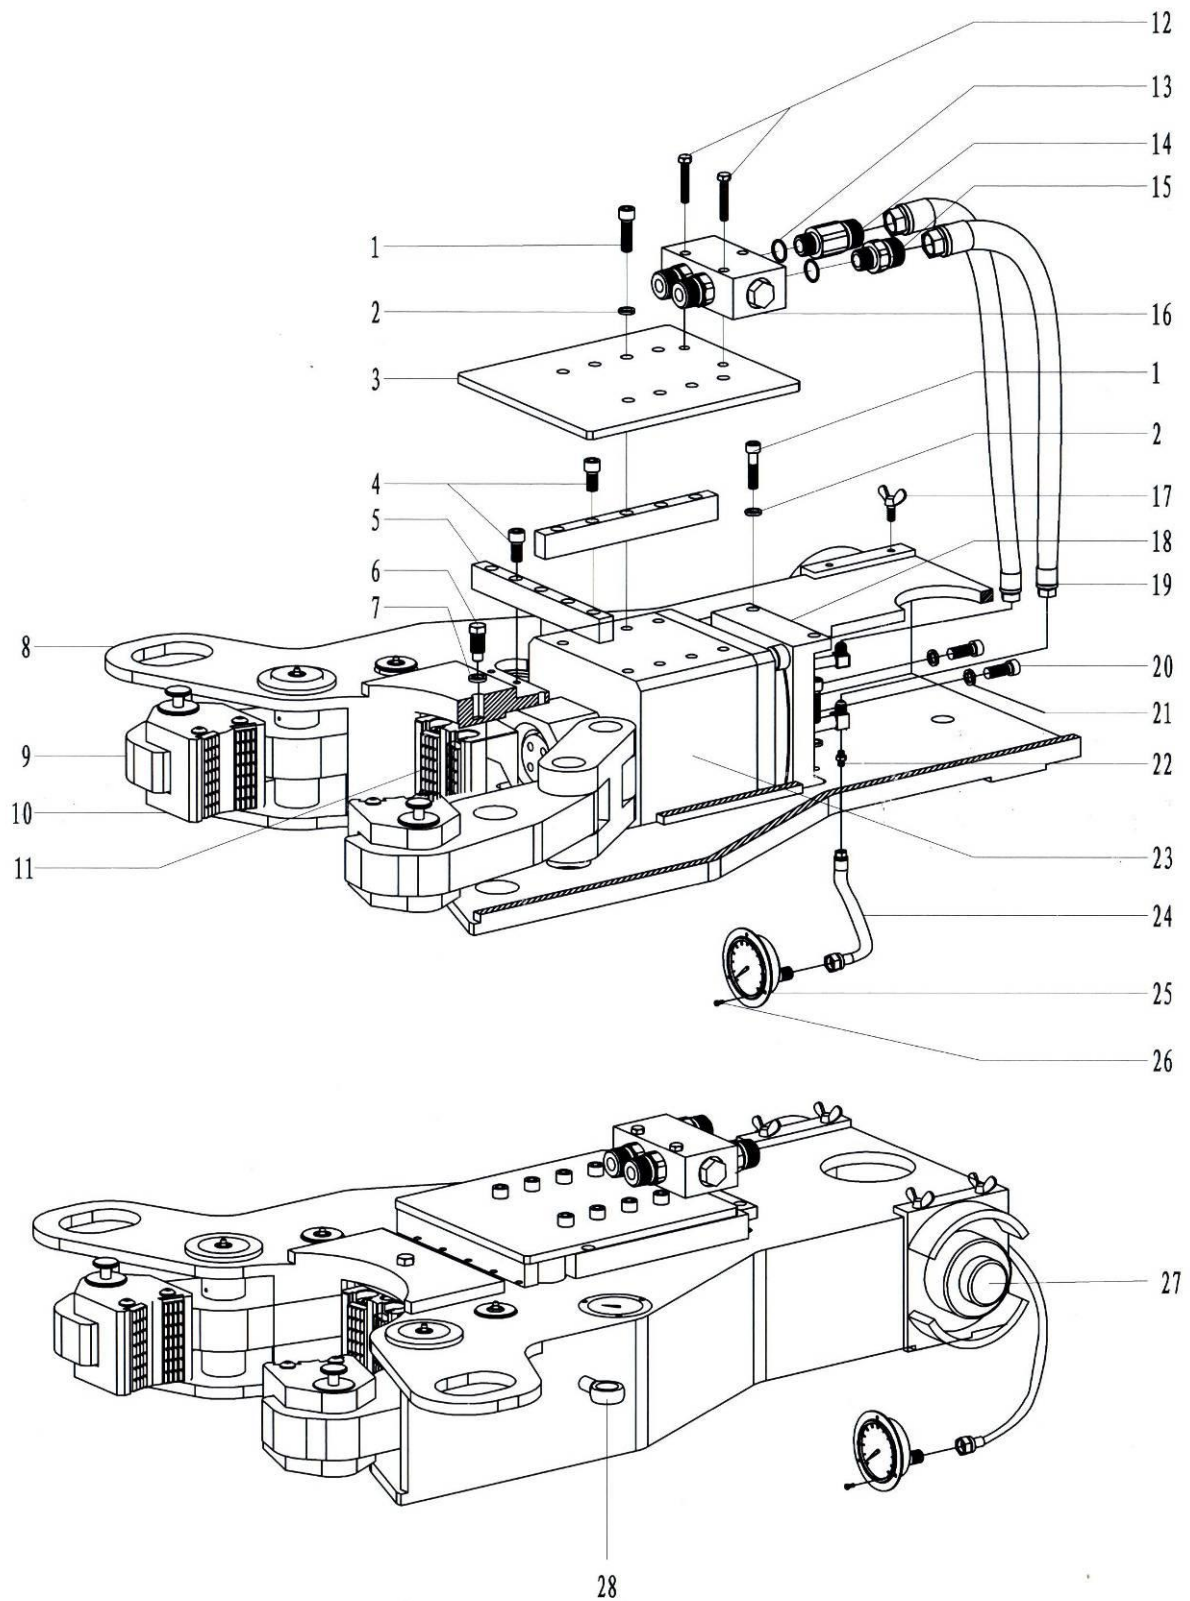

Fig. 26
7.2 Backup Tong assembly (Fig.26, Table.21)